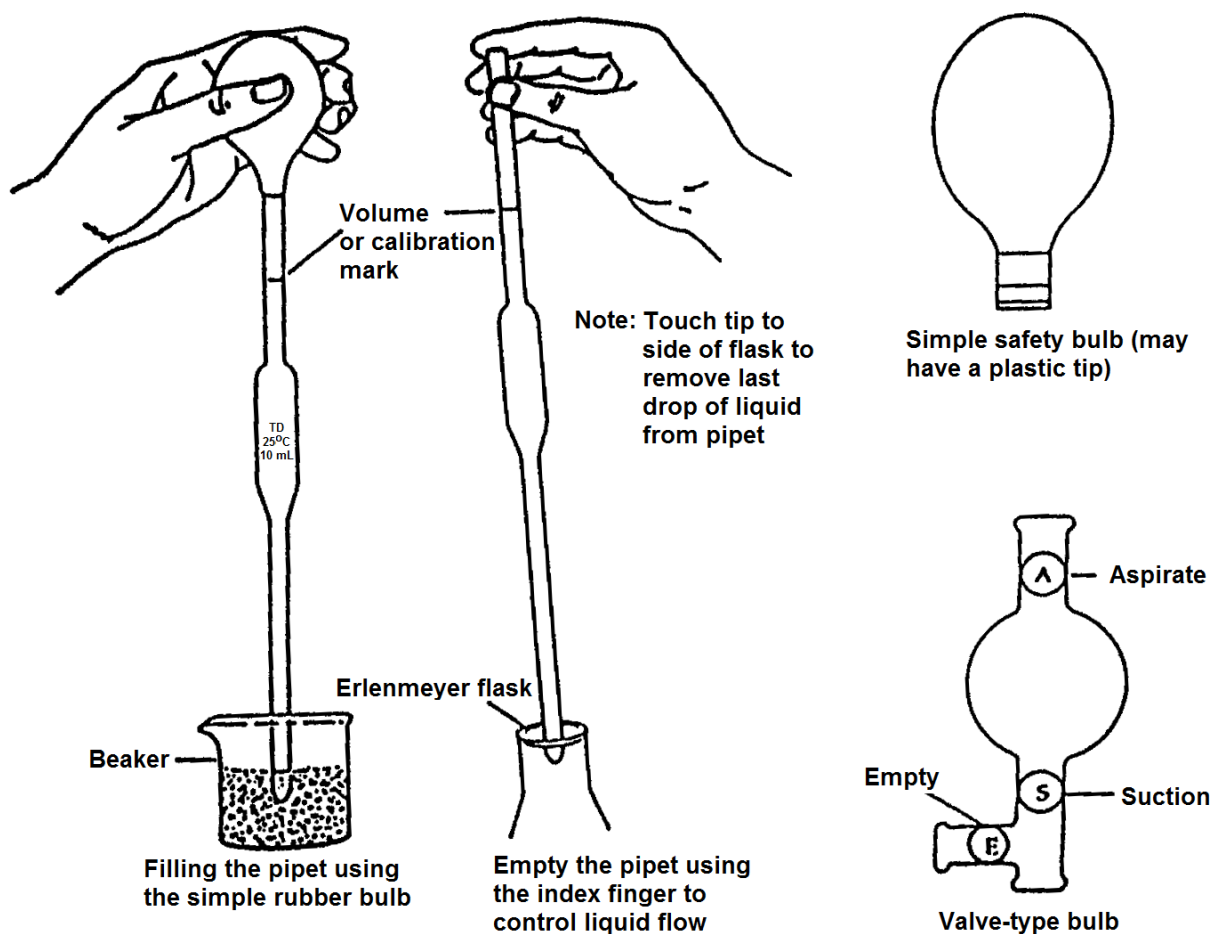

Figure 1.2 A typical volumetric pipet, rubber bulbs, and the pipet filling technique.
Pipets are glass vessels that are constructed and calibrated so as to deliver a precisely known volume of liquid at a given temperature. The markings on the pipet illustrated in **Figure 1.2** signify that this pipet was calibrated To Deliver (TD) 10.00 mL of liquid at 25°C. Always use a rubber bulb to fill a pipet. NEVER USE YOUR MOUTH! A TD pipet should not be blown empty. It is important that you be aware that every measuring device, regardless of what it may be, has limitations in its accuracy. Moreover, to take full advantage of a given measuring instrument you should be familiar with or evaluate its accuracy. Careful examination of the subdivisions on the device will indicate the maximum accuracy you can expect of that particular tool.